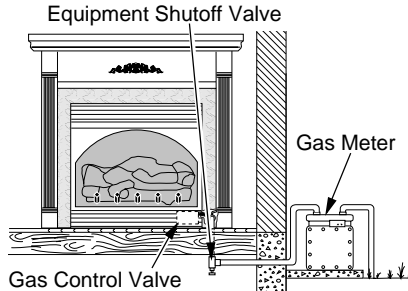

Figure 22 - Checking Gas Joints for Natural Gas
3. Check all joints from gas meter to equipment shutoff valve for natural gas or propane/LP supply to equipment shutoff valve for propane/LP (see Figures 22 and 23). Apply noncorrosive leak detection fluid to all joints. Bubbles forming show a leak.
4. Check all joints from equipment shutoff valve to gas control valve (see Figures 22 or 23, page 15). Apply noncorrosive leak detection fluid to all joints. Bubbles forming show a leak.